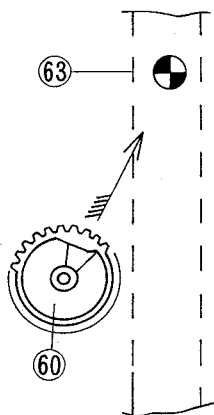

Figure 14
**(B) REPLACE THE CAM (60) WITH FOLLOWING CAUTION:**
When Cam (60) is replaced, make sure that the depressed part on the cam should be mounted facing with the tonearm (Fig. 14).